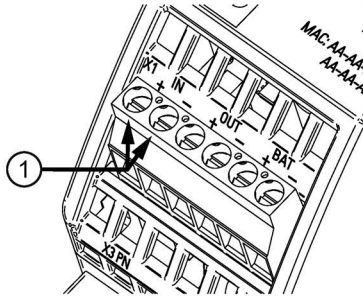

Figure 7-1 Input side connection
The 24 V power supply is connected at the "IN+", and "IN-" ① terminals (see Figure 7-1 Input side connection (Page 212)).